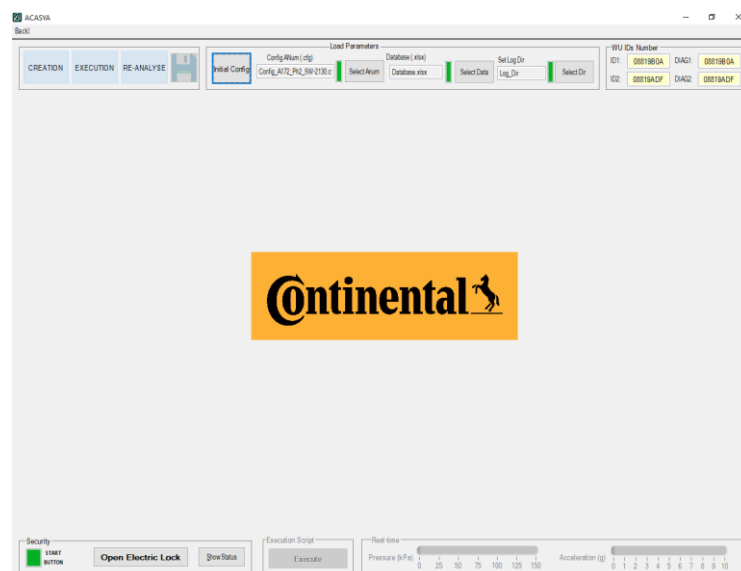

Figure 4. Main window after configuration
- Once this step is completed, the **Creation**, **Execution** and **Re-Analyse** buttons of the Mode Selection Menu are enabled and the WU IDs from the Database are loaded into the WU IDs Display, as presented in the Figure 4. Main window after configuration.